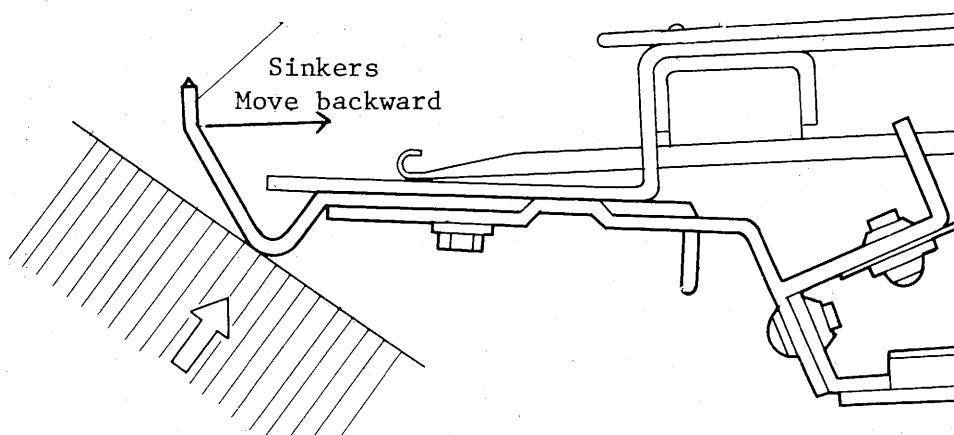

Fig. 68
- (1) Loosen a hexagon nut by a quarter turn which is located close to a Sinkers which you find necessary to move inside.
- (2) Loosen $\oplus$ binding head screws (3x6) used to fix four Needle Bed Bracers, A and B, to Supporting Plate for Needle Bed.
- (3) Press the part of a Sinkers as shown by a white arrow mark in Fig. 68 with rounded side of a wooden hammer or any wooden material with a rounded surface as if you were rubbing it, and the Sinkers can be moved inside.
- (4) Measure the Dimension L after tightening the hexagon nut which has been loosened in the preceding step.
- (5) After the adjustment is over, tighten the $\oplus$ binding head screws (3x6) loosened in the preceding step (2).